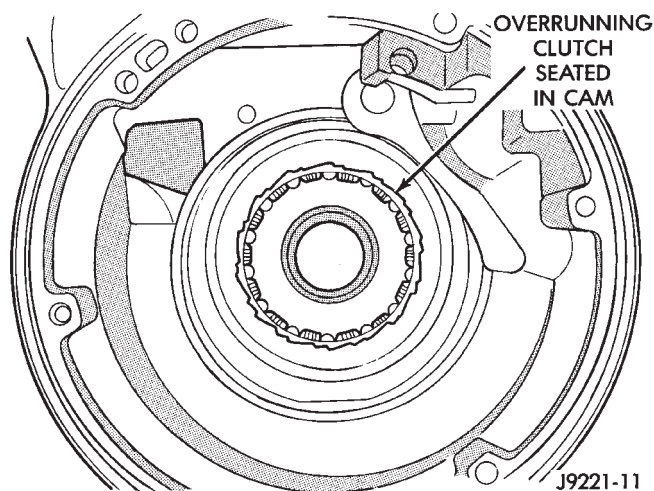

Fig. 47 Overrunning Clutch Seated In Cam
(3) Install and seat clutch assembly in cam (Fig. 47). **The retainer is a one-way fit in the cam. The flanged side of the retainer should be facing out-**